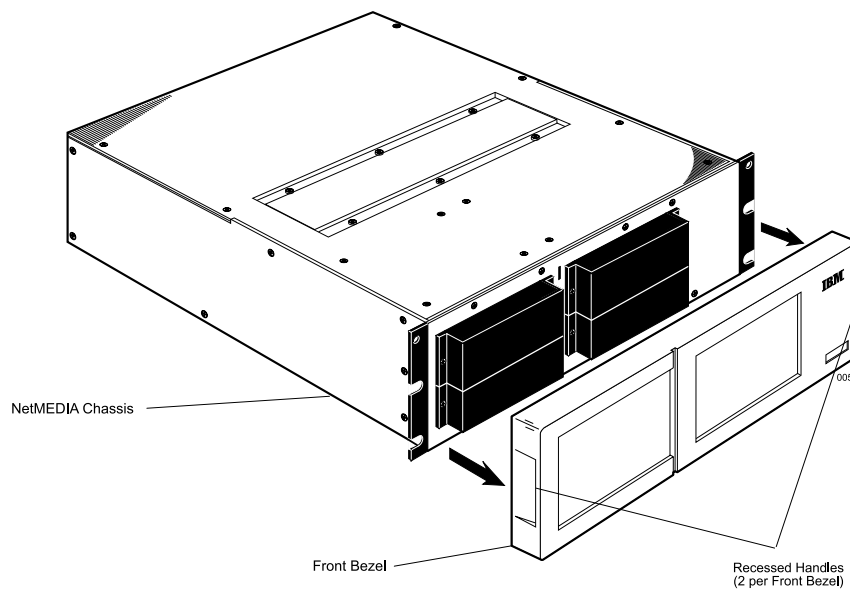

Figure 5: NetMEDIA Front Bezel Removal
3. Using the recessed handles, remove the front bezel by carefully pulling it straight off of the NetMEDIA chassis (Figure 5).